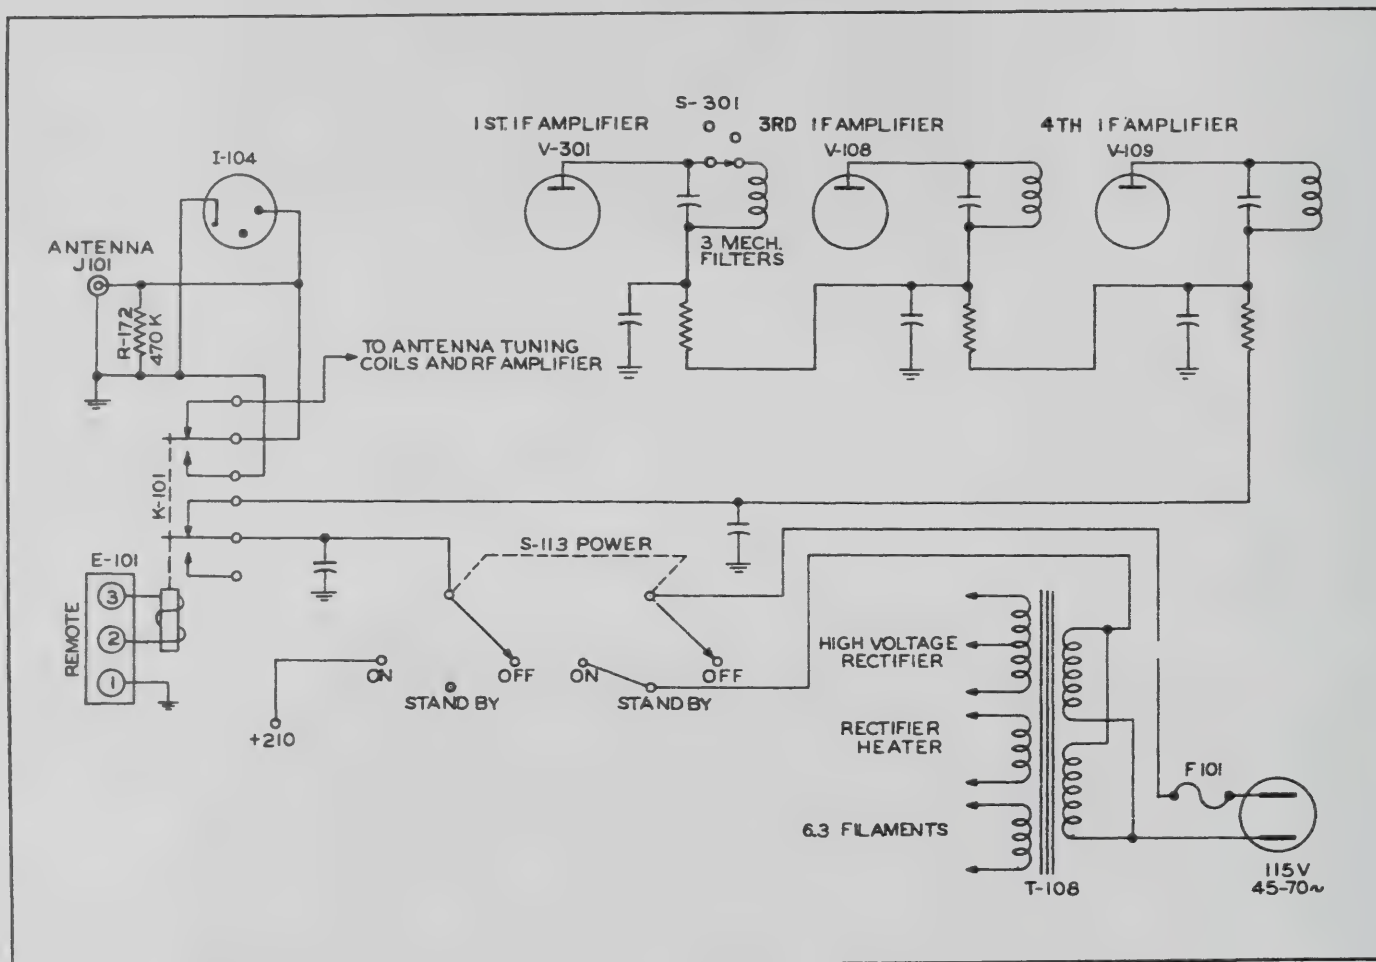

Figure 2-3. 51J-4 On-Off-Standby Functions and Remote Operation Relay Circuit
2.2.5. REMOTE STANDBY CONNECTIONS. - Break-in relay connections are available at terminal strip E101 at the rear of the chassis. Terminals are marked 1, 2 and 3. Terminal 1 is connected to receiver ground. Terminals 2 and 3 are connected to the break-in relay coil, which is rated at 12 v d-c nominal and 135 ohms d-c resistance. During operation, terminals 2 and 3 are usually connected in series with a source of voltage and a set of normally open contacts on the carrier control relay of a transmitter in order to silence the receiver during transmission. When the break-in relay coil is energized, one pair of contacts shorts the antenna to ground; another pair, connected in series with a section of the OFF-STANDBY-ON switch, removes plate voltage from the three i-f amplifier stages. In STANDBY position, the OFF-STANDBY-ON switch also removes plate voltage from the i-f stages. See figure 2-3.